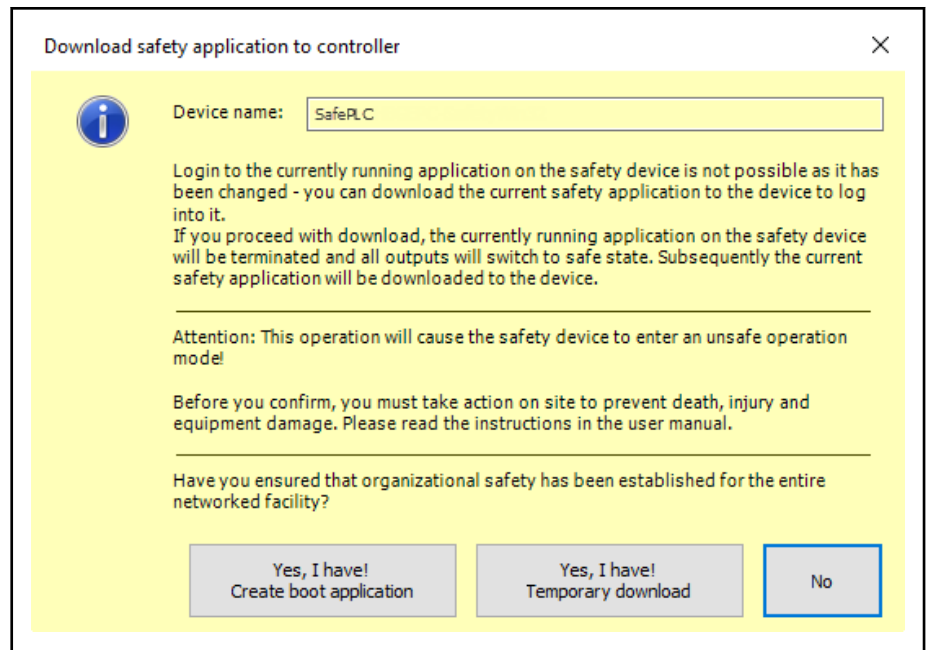

Fig. 8-4: Dialog box when logging in to a control with a modified application
- If the current application was changed, a dialog asks if the application on the safety control should be closed and the current application loaded (see fig. 8-4 "Dialog box when logging in to a control with a modified application" on page 121). If this current application is loaded (download) to the safety control, the safety control is in **Debug Operation**. The application is in online mode.